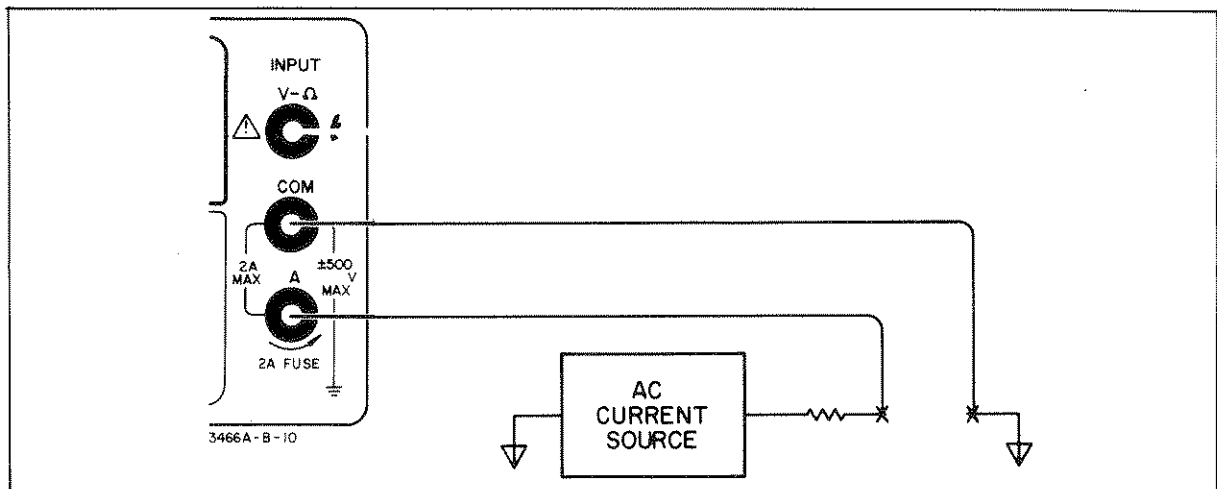

Figure 3-7. AC Current Measurements.
- c. Connect test leads from the Multimeter A and COM terminals in series with the current under test as shown in Figure 3-7.